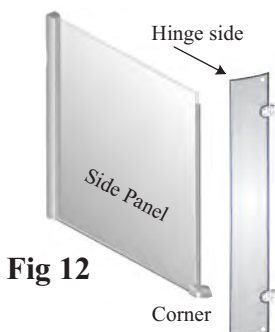

Fig 12
5.4 Determine whether your configuration has the hinges or the handle adjacent to the large left side panel (see Fig.12) insert either the hinge, or handle, narrow glass panel (depending on your configuration) into the corner seal and bottom corner bracket as described in paragraph 5.5 and repeat for the remaining narrow glass panel on the right side corner. *TIP Wet the seal and glass edge with a water soaked cloth to make it easier to insert the glass fully.*